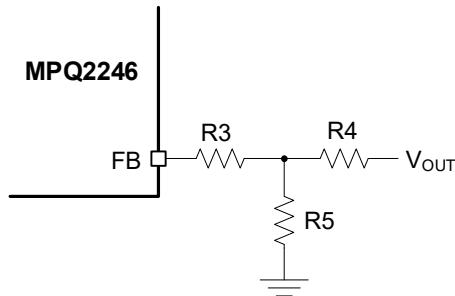

Figure 1: Feedback Divider Network with Adjustable Output
8. The external resistor divider sets the output voltage ( $V_{OUT}$ ) (see Figure 1).